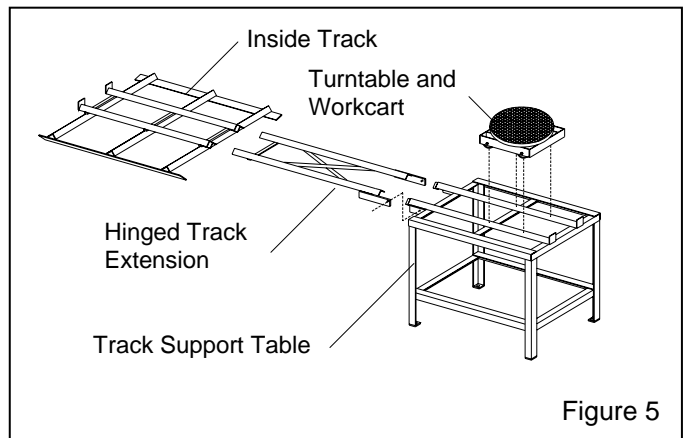

Figure 5
3.4.1 The turntable and track components are shown in Figure 5. The assembly consists of: